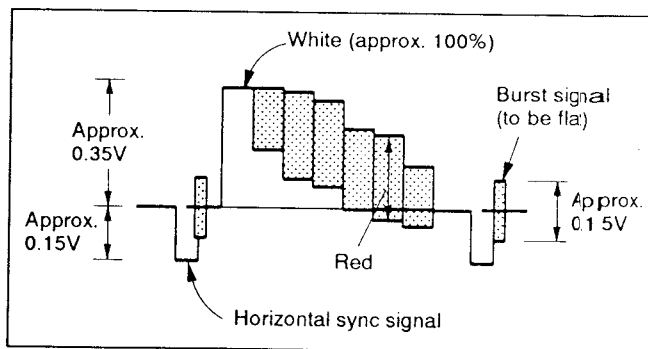

Fig. 10-2. Color Bar Signal of the Pattern Generator
As the video signal obtained from the pattern generator is used as an adjustment signal during electric adjustments, ensure that this video output signal is within the specification. Connect the oscilloscope to pin ② of IC151 on the VS-100 board, and check that the amplitude of the sync signal of the video signal is approximately 0.15V, the amplitude of the video section is approximately 0.35V, the amplitude of the burst signal is approximately 0.15V and flat, and that the level ratio of the burst signal and the [red] signal is 0.30: 0.66. The video signal (color bar) used for electric adjustments is shown in Fig. 10-2.